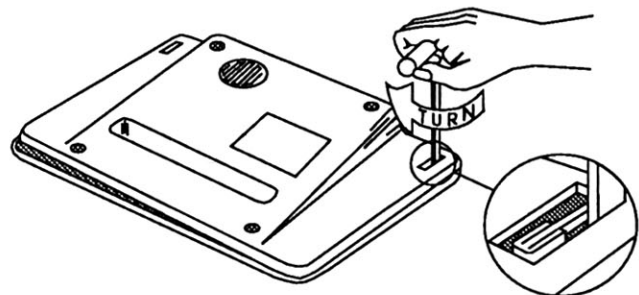

Figure 3-4: Unlocking Case (right side)
Step 5 Use the T-handle tool to open the right side of the case (the tool must be inserted as far as it will go into the smaller outermost slot). Turn the tool clockwise to unfasten the lock (see figure 3-4).